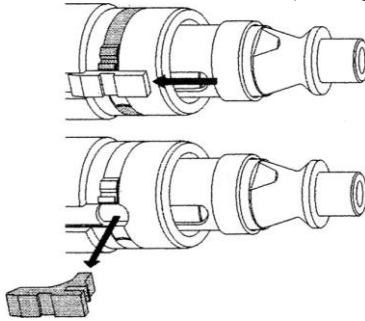

Figure 2 — Removing Stop
2. Push stop towards rear of tool and remove (see Figure 2).